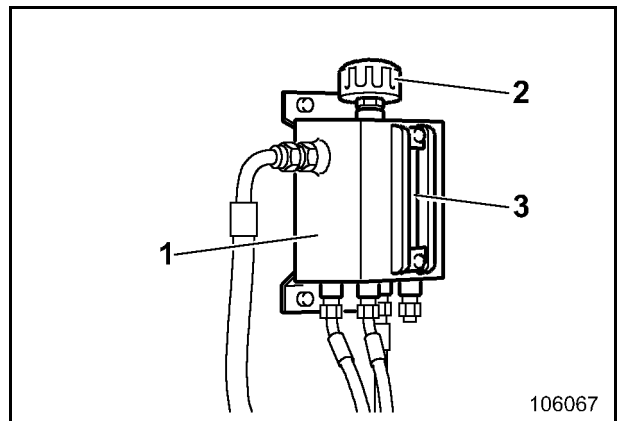

Fig. 3-104
The oil level in the pre-chambers is visually at the inspection glas (3, Fig. 3-104) in expansion reservoir (1).